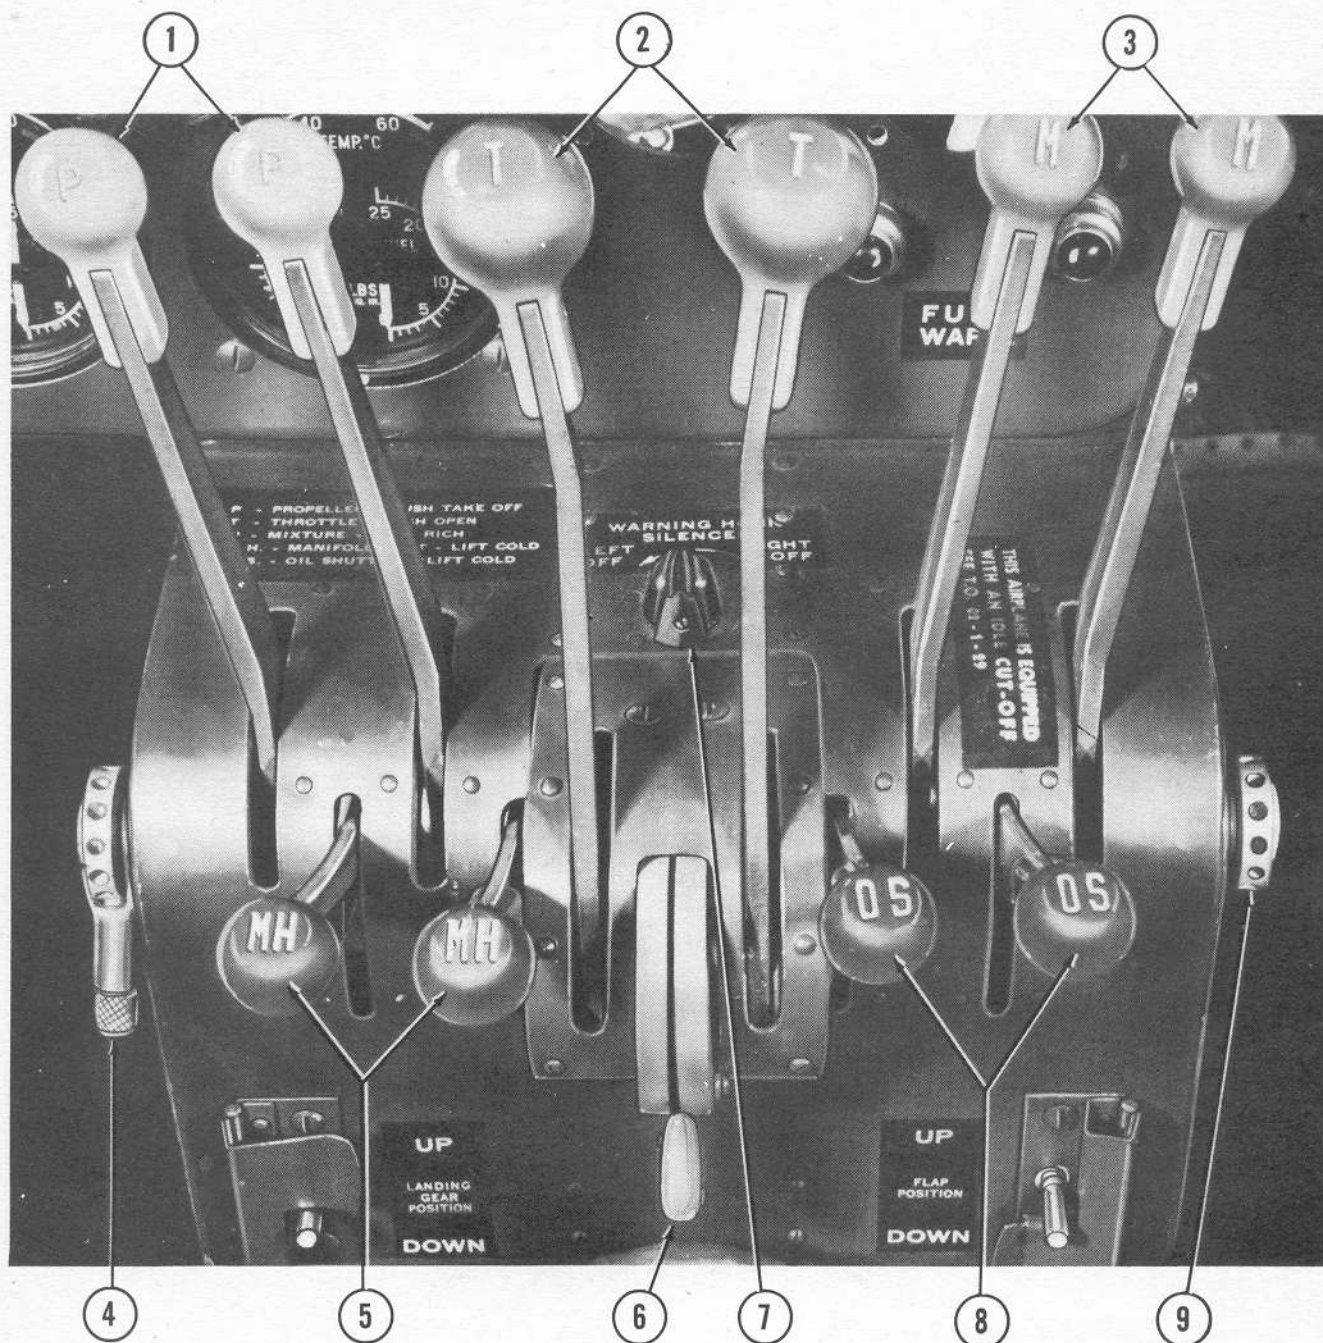

Figure 34—Engine Controls on Pilot's Control Pedestal
(7) **MIXTURE CONTROLS.**—Mixture control levers (figure 34) are located on control pedestal. Push forward for "RICH" mixture.
(2) **OIL SHUTTER CONTROLS.**—For quicker warm-up and temperature control, air intake for each oil temperature regulator is equipped with a butterfly valve operated by levers on control pedestal. Lift levers (figure 34) to cool oil.
e. THROTTLE CONTROLS. (See figure 34.)—Conventional throttle controls are provided. Push forward to open.
f. PROPELLER CONTROLS. (See figure 34.)—Propeller constant-speed governor controls are located on control pedestal. Push forward for low pitch (high rpm) and pull back for high pitch (low rpm).
g. MANIFOLD HEAT CONTROL.—The manifold heat controls (figure 34) are located on control pedestal. Push down to heat, up to cool.
b. FRICTION ADJUSTMENTS.—Friction adjustment (figure 34) for propeller and manifold heat controls is located on left side of the pedestal. Rotate counterclockwise to tighten controls. Friction adjustment (figure 34) for oil shutter and mixture controls is on right side. Rotate clockwise to tighten. Adjustment of these controls can be made by changing position of pegs. Throttle controls may be locked by lifting the lever (figure 34) between the two throttles.
(1) Pull engines through 4 or 5 times, slowly, by hand, in direction of normal rotation. (If engines have been stopped less than 30 minutes, this is not necessary.)
(2) Manifold heat (carburetor air) controls (figure 34) on "COLD" (up position).
(3) Oil shutter controls (figure 34) on "HOT" (down position) for winter and on "COLD" (up position) for summer.
(1) Engine selector valve to operating engine.
(2) Cross-feed valve "OFF."
b. Mixture controls (figure 34) full "RICH" (forward position).
c. Throttle controls (figure 34) one-fourth open.
d. Propeller controls (figure 34) full "HIGH PITCH" (full back position).